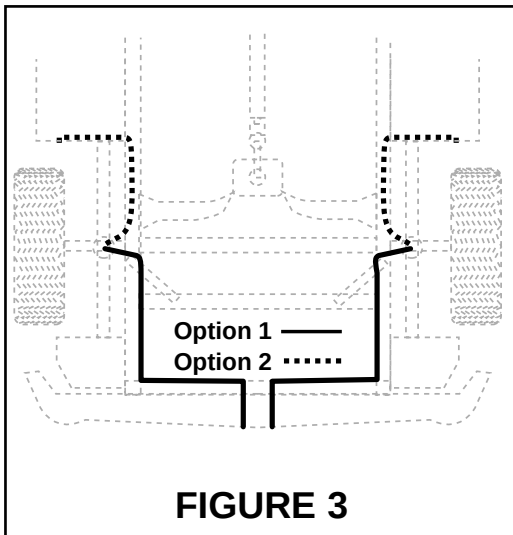

FIGURE 3
- A. Select a location for the inflation valves in the rear bumper area or rocker panel flange insuring that each valve will be protected and accessible with an air hose (Figure 3).
- C. Route air line from inflation valve location along frame rail to bellows. Route the air line so that it will be protected from the direct heat from the muffler or tailpipe and kept away from sharp edges. The air line should not be bent or curved sharply (Figure 3). Attach air line to chassis with the provided plastic straps.